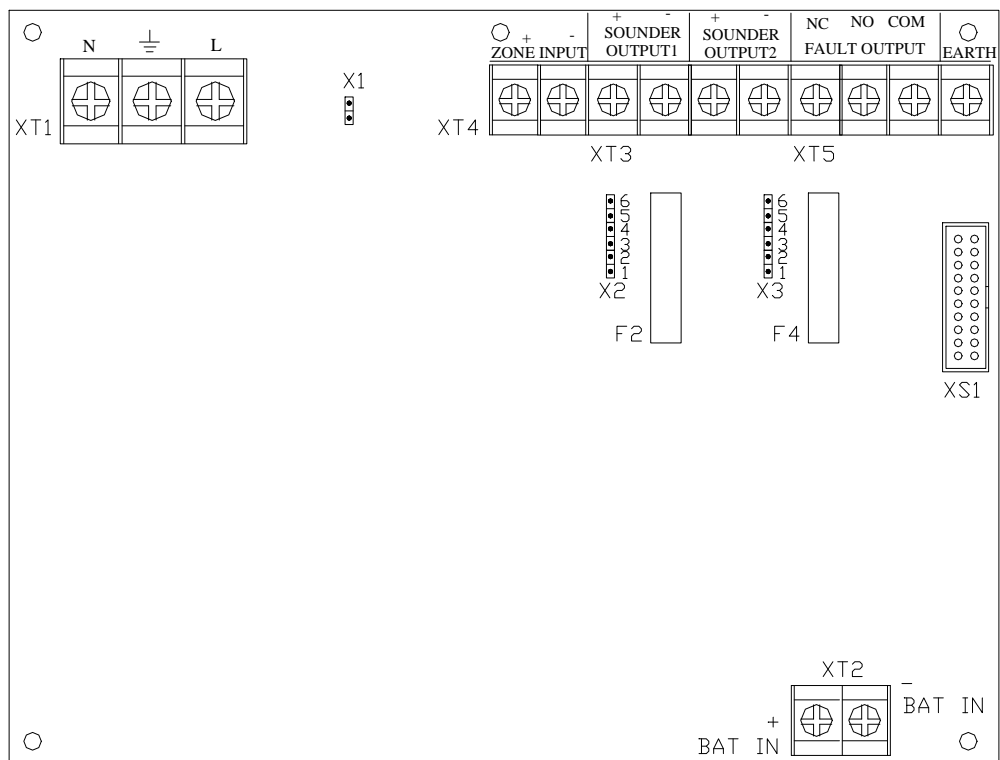

Fig. 3.6.2
- 1 There are three output modes for the two sounders: normally closed contact output, normally open contact output and voltage output. For example: to set Sounder 1 as voltage output, plug fuse F2 and connect foot 5 with 6, and 2 with 3 of pin X2 by jumpers (location of the parts as in Fig.3.6.2).
- 2 Detailed configuration are shown in Table 1 (position of the parts is shown in Fig.3.6.2).